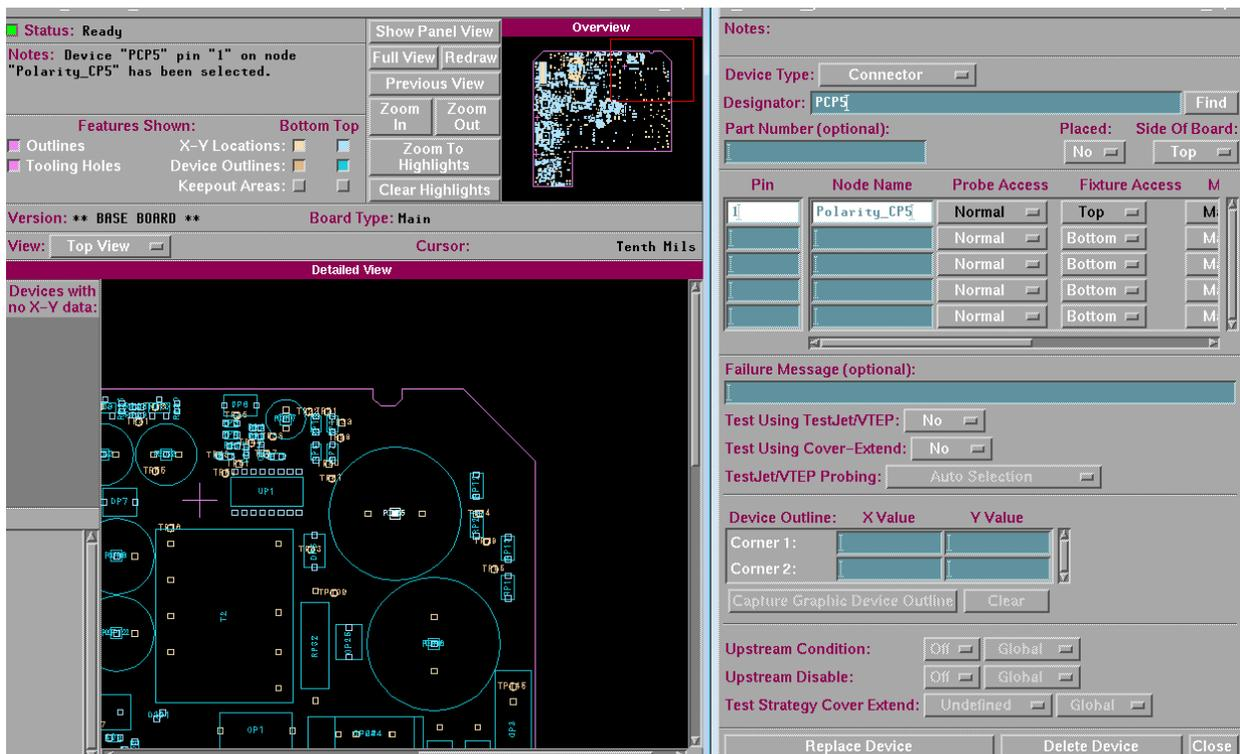

Figure 7. Adding test point through board consultant
- Create the test to include the polarity checking as shown in Figure 7